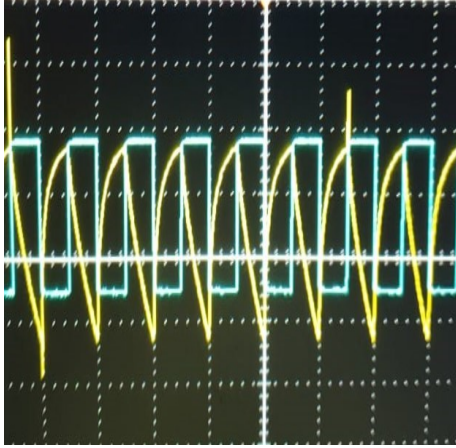
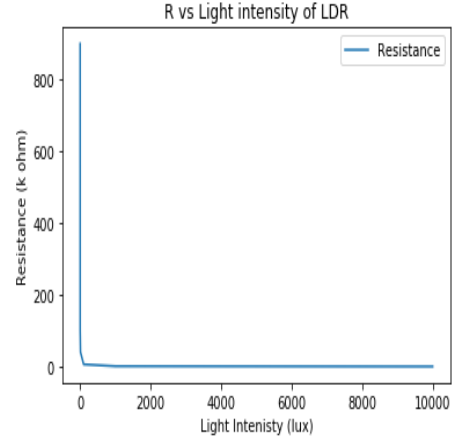

Figure 9: Blue signal: Input square wave to transmitter
Figure 10: R Vs Light Intensity of LDR
From Figure 9, we can see that the output given by our LDR receiver clearly does not match the input signal, upon further investigation it was found that this is because the reactive time of LDR is pretty slow and the Light intensity vs Resistance relation of LDR is also non-linear (as seen in Figure 10)
- [4] [www.sunrom.com/get/443700](http://www.sunrom.com/get/443700), *Datasheet of LDR, Figure 10 was plotted using data from this source*